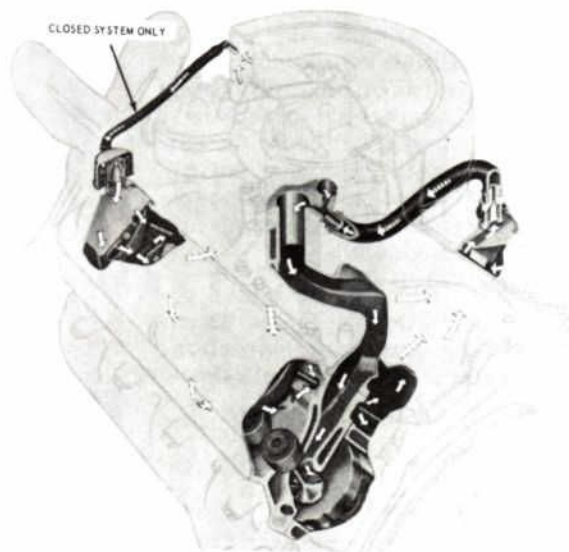

Figure 15
The air flow in the positive crankcase ventilation system is shown in Figure 15.
The closed ventilation system is the same as the open ventilation system except that the breather cap is sealed and connected to the air cleaner by a hose (see Figure 15). Thus, the crankcase receives air from the air cleaner. If the system becomes restricted, a back-flow condition will occur, thereby venting the crankcase gases into the air cleaner silencing chamber.
1. Loosen or remove the hose clamps, and remove the vent hose (closed system only) from the air cleaner and/or oil filler tube breather (Figure 15, Page 13). Remove the carburetor air cleaner.
2. Install the crankcase ventilation regulator valve in the right valve rocker arm cover (Figure 15). Be sure the grommet is properly seated around the regulator valve and valve rocker arm cover.